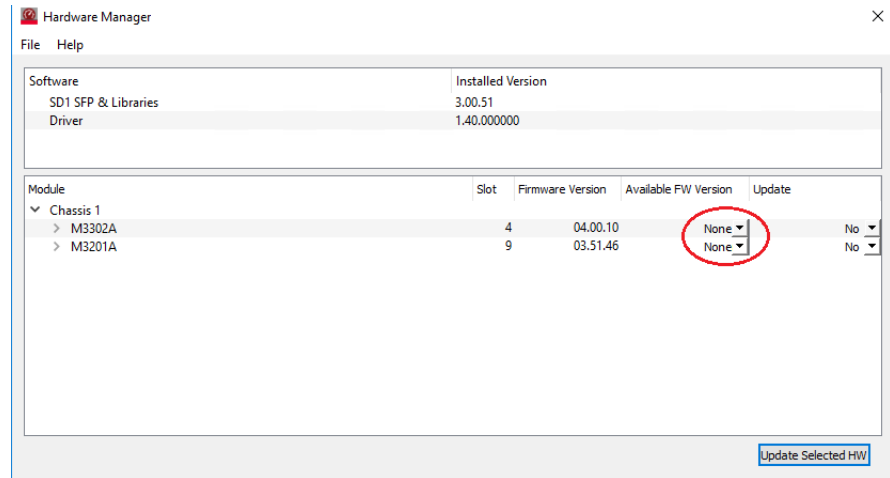

Figure 19 Available FW Version list empty or outdated in offline mode
- If the system is offline or for some reason, the connection to the FW server fails and the **Available FW Version** list is displayed as empty or not fully up-to-date. See Figure 19. Proceed with step 4.